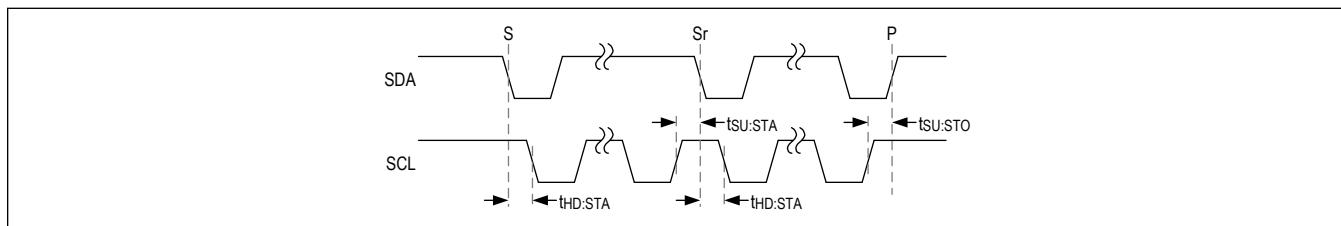

Figure 5. START, STOP and REPEATED START Conditions
A master device initiates communication by issuing a START condition. A START condition is a high-to-low transition on SDA with SCL high. A STOP condition is a low-to-high transition on SDA while SCL is high (Figure 5). A START (S) condition from the master signals the beginning of a transmission to the MAX16984A. The master terminates transmission, and frees the bus, by issuing a STOP (P) condition. The bus remains active if a REPEATED START (Sr) condition is generated instead of a STOP condition.